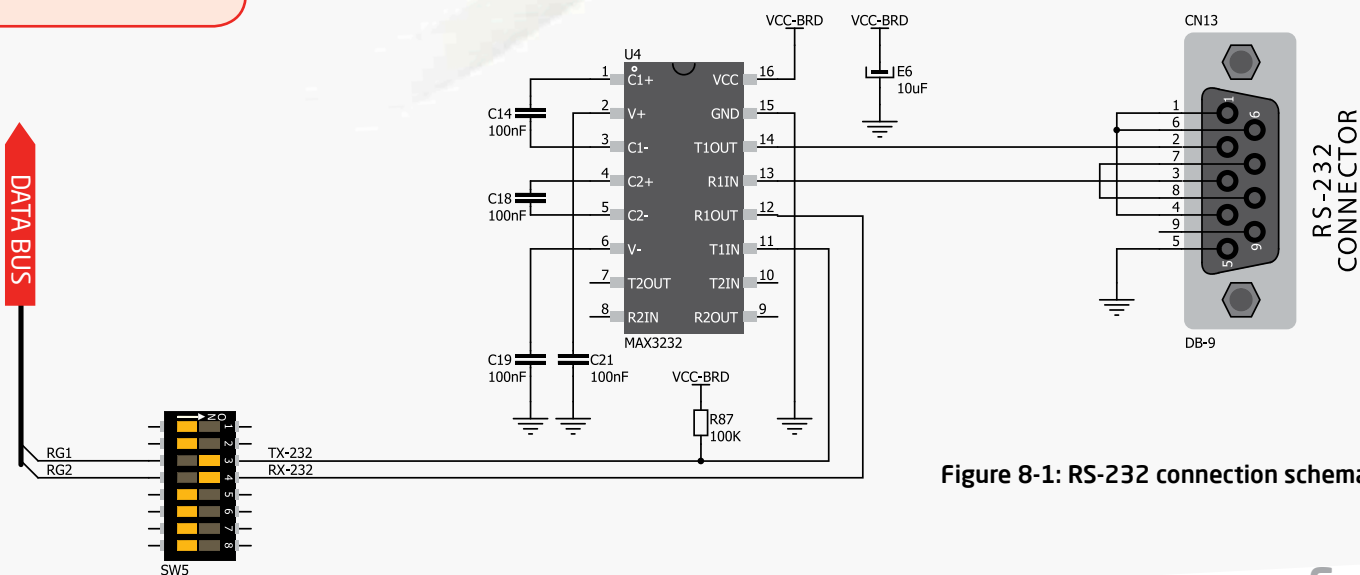

Figure 8-1: RS-232 connection schematics
**RS-232 serial communication** is performed through a 9-pin SUB-D connector and the microcontroller UART module. In order to enable this communication, it is necessary to establish a connection between **RX** and **TX** lines on SUB-D connector and the same pins on the target microcontroller using DIP switches. Since RS-232 communication voltage levels are different than microcontroller logic levels, it is necessary to use a RS-232 Transceiver circuit, such as **MAX3232** as shown on **Figure 8-1**.